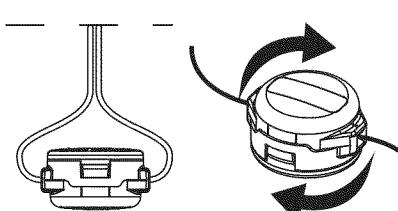

Fig. 17
2. Using 10.5 ft. (3.2 m) of 0.095 in. (2.41 mm) replacement line push an end of the line through one of the eyelets until it protrudes through the opposite side. Continue pushing or pulling the line until the line is evenly distributed, so approximately 5 ft. (1.5 m) is visible from both sides of the cutting head.(Fig. 17)